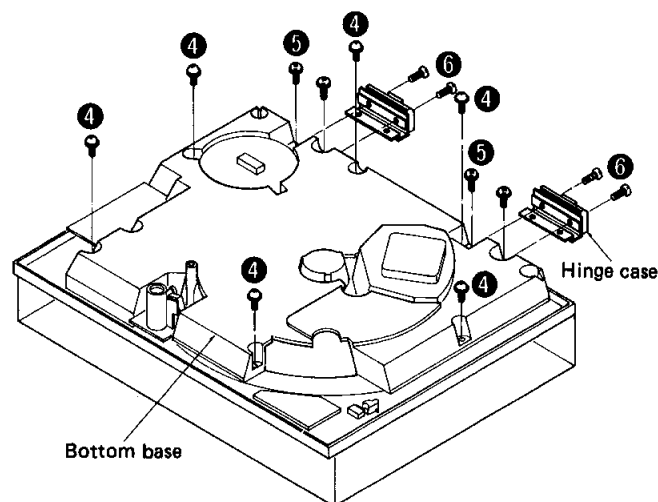

Fig. 2
4. Remove the 6 setscrews (Fig. 2 : ④) of the bottom base.
2. Remove the 4 setscrews (Fig. 2 : ⑤) of the hinge case bracket.
3. Remove the 4 setscrews (Fig. 2 : ⑥) of the hinge case.